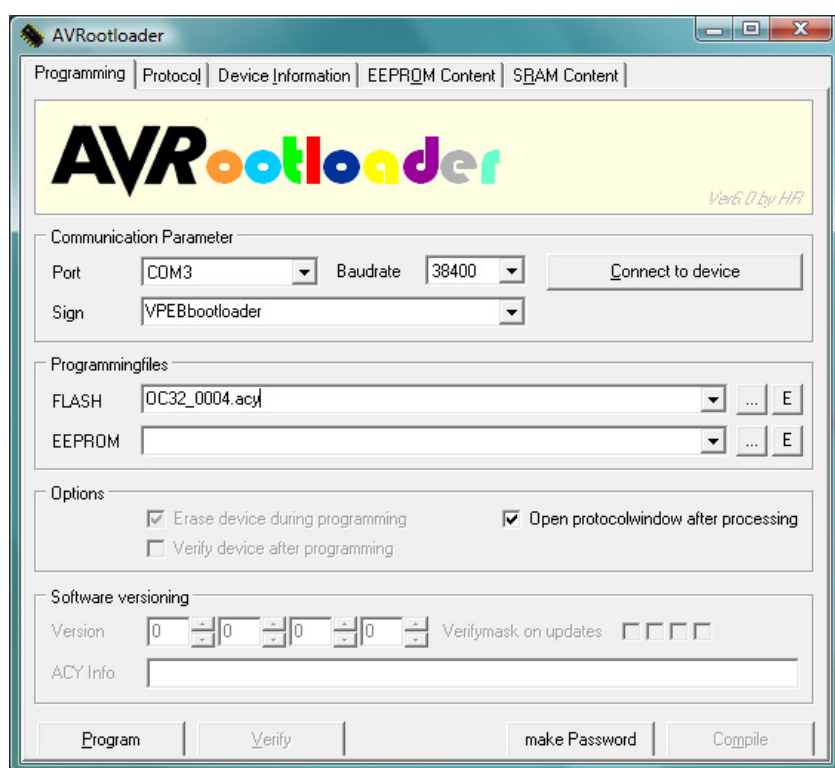

Fig 10: AVRRootloader
5. Start AVRrootloader.exe. You will see a screen looking like the one in figure 10. The "baud rate" is set to 38400 and "Sign" is set by default to "VPEBbootloader".